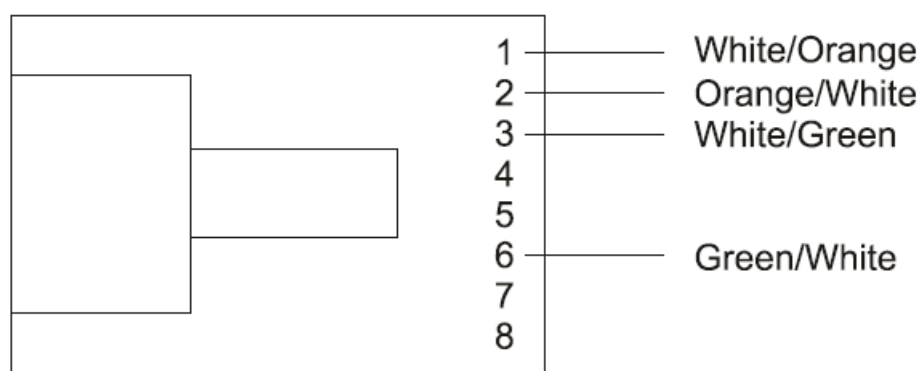

Figure C-1. 10/100 straight-through wiring for RJ-45 connector
- Figure C-1 shows the straight-through 10/100 connector wiring to be used when the crossover function is implemented on the hub or switch.